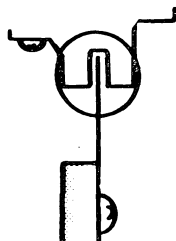

Figure 5.13 Sector Disk/Transducer Alignment
11. Make sure sector disc is between horns of the transducer (see Figure 5.13).